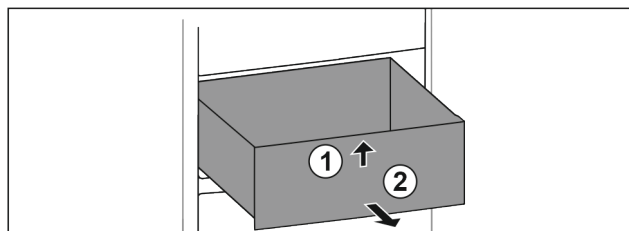

Fig. 95
- ▶ Lift up drawer at the front. Fig. 95 (1)
- ▶ Remove drawer to the front. Fig. 95 (2)